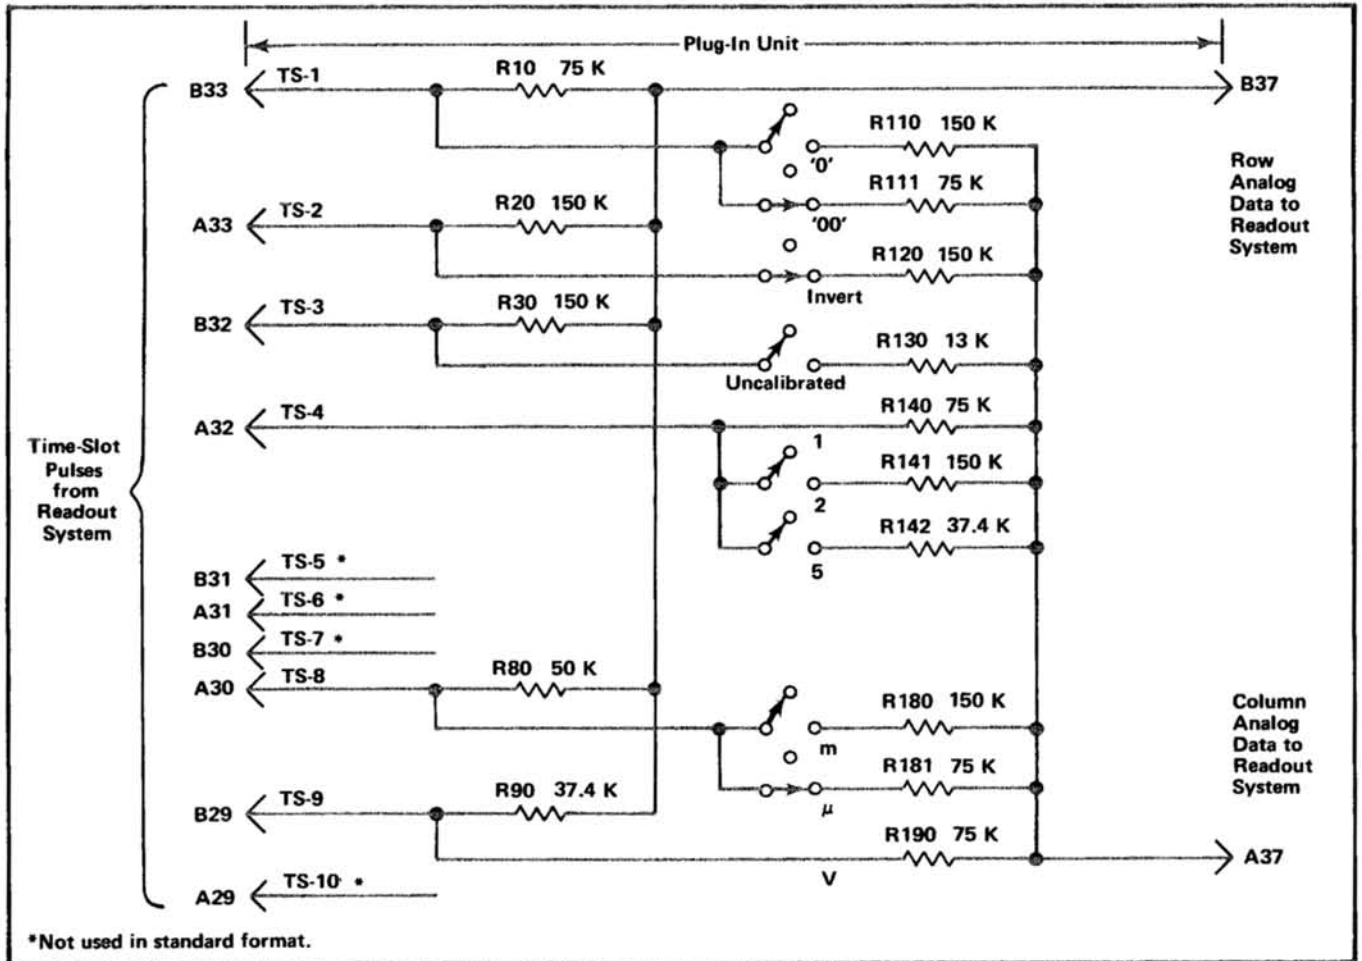
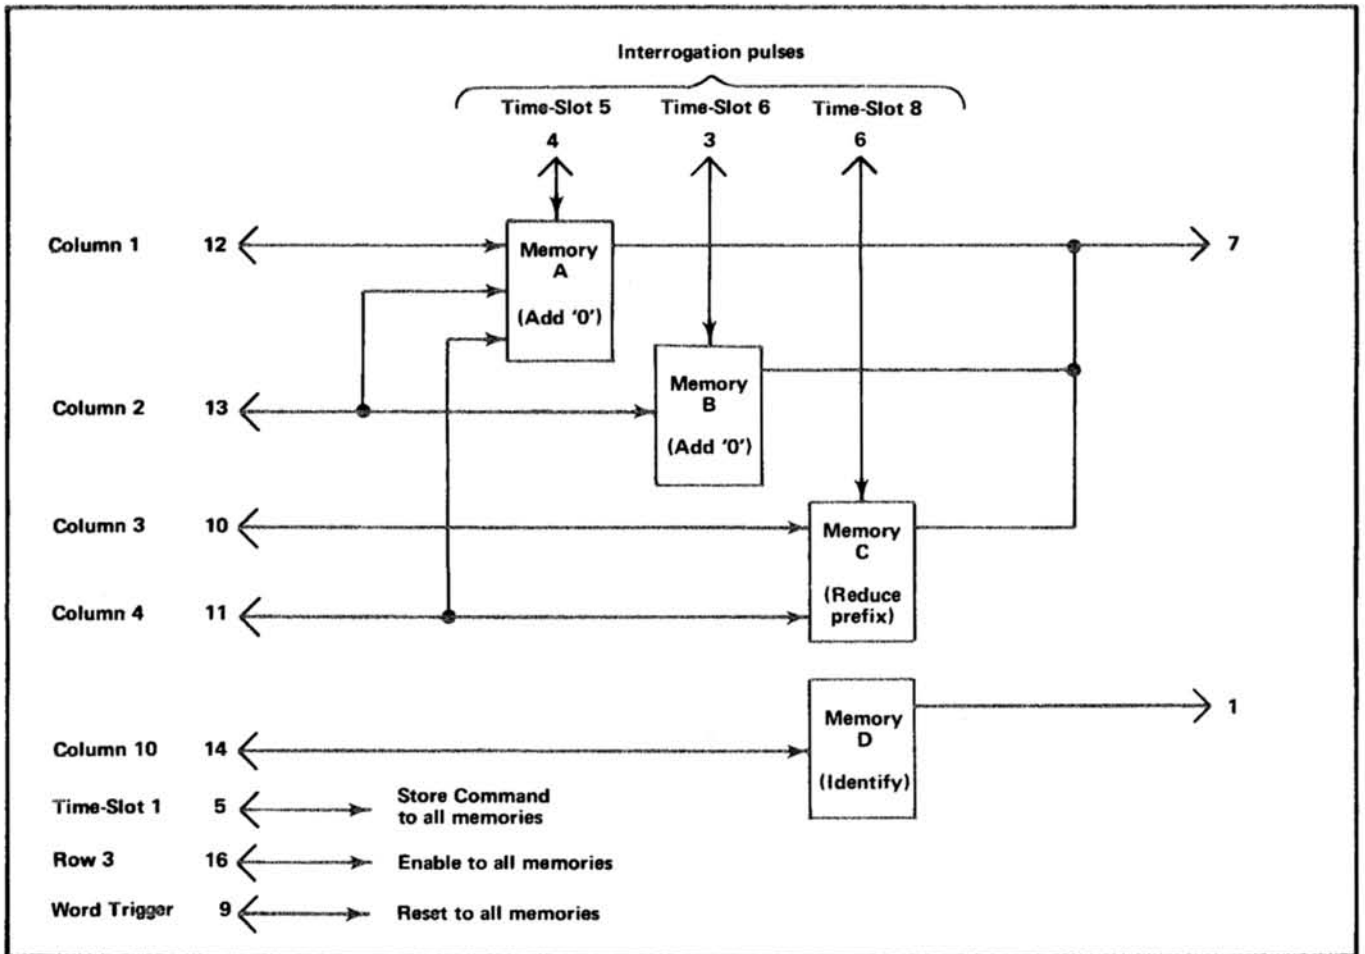
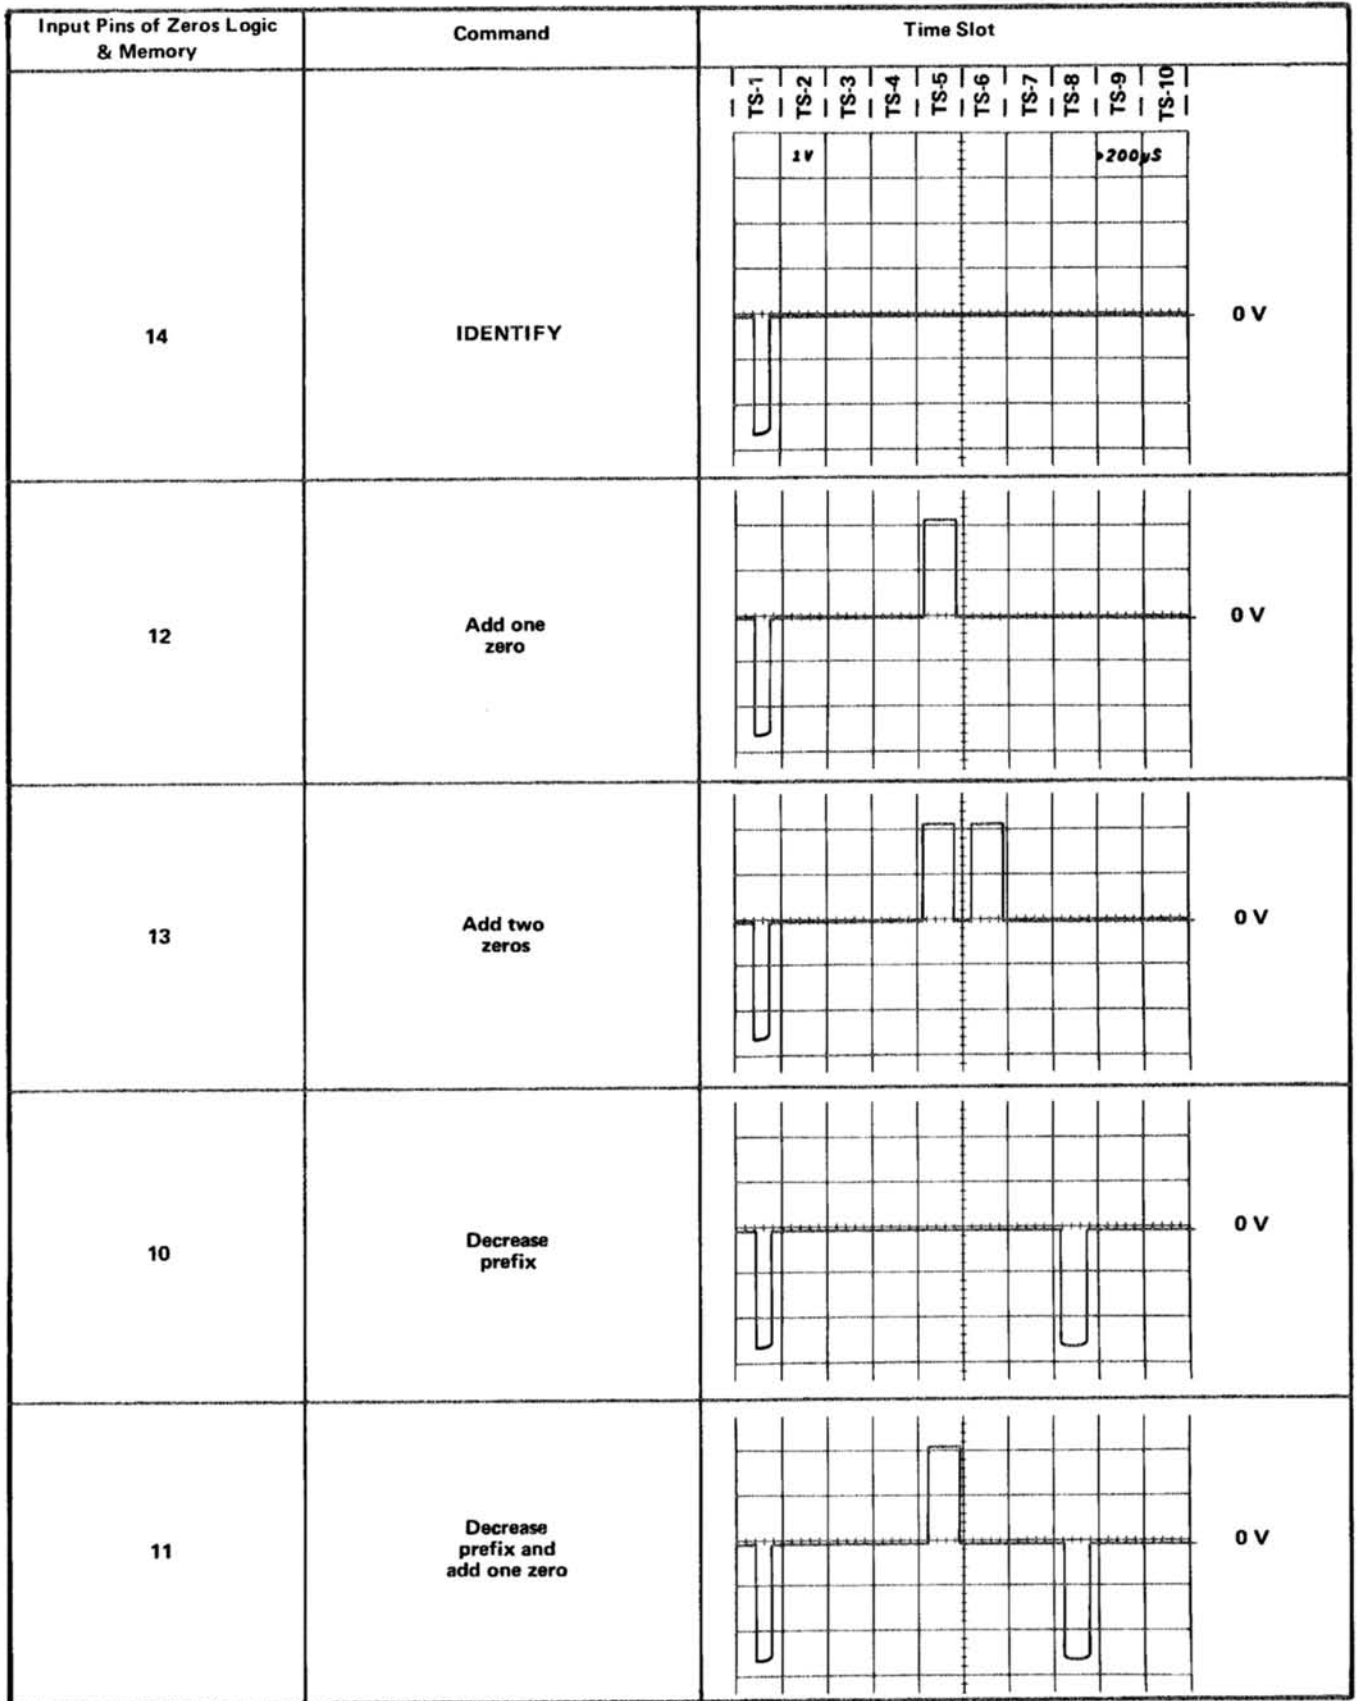

Fig. 3-32. Typical encoding scheme for voltage-sensing amplifier plug-in unit. Coding shown for deflection factor of 100 microvolts.
Fig. 3-34. Block representation of memory sequence in U2232.
Fig. 3-35. Typical output waveforms for Zeros Logic and Memory stage operation (at pin 7 of U2232).
Data is conveyed from the plug-in units to the Readout System in the form of an analog code having up to 11 current levels (from zero to one milliamperere in 100 microampere steps). The characters which can be selected by the encoded data are shown on the Character Selection Matrix (see Fig. 3-25). Each character requires two currents to define it; these currents are identified as the column current and the row current which correspond to the column and row of the matrix. The column and row data is encoded by resistive programming in the plug-in units. Fig. 3-32 shows a typical encoding scheme for a voltage-sensing amplifier plug-in unit. Notice that the 10 time-slot (TS) pulses produced by the Time-Slot Counter stage are connected to the plug-in unit. However, time-slots 5, 6, 7, and 10 are not used by the plug-in unit to encode data when using the Standard Readout Format (see Table 3-2 for Standard Readout Format). The amplitude of the time-slot pulses is exactly -15 volts as determined by the Timer stage. Therefore, the resultant output current from the plug-in units can be accurately controlled by the programming resistors in the plug-in units.
For example, in Fig. 3-32, resistors R10 through R90 control the row analog data which is connected back to the Readout System. These resistors are of fixed value and define the format in which the information will be presented by the Readout System. Fig. 3-33A shows an idealized output current waveform of row analog data which results from the 10 time-slot pulses. Each of the steps of current shown in these waveforms corresponds to 100 microamperes of current. The row numbers on the left-hand side of the waveform correspond to the rows in the Character Selection Matrix shown in Fig. 3-35. The row analog data is connected back to the Readout System via terminal B37 of the plug-in interface.
The Column analog data is defined by resistors R110 through R190. The program resistors are connected to the time-slot lines by switch closures to encode the desired data. The data as encoded by the circuit shown in Fig. 3-32 indicates a 100 microvolt sensitivity with the display inverted and calibrated vertical deflection factors. This results in the idealized output current waveforms shown in Fig. 3-33B in the column analog data output, terminal A37 of the plug-in interface. Resistor R111, connected between time-slot 1 and the column analog data output, encodes two units of current during time-slot 1. Referring to the
connectors of vertical plug-in units. A special coding ring around the input connector of the plug-in unit senses the attenuation ratio of the probe (with readout-coded probes only). The probe contains a resistor which results in additional column current. For example, if a 10X attenuator probe is connected to a plug-in with the coding for 100 microvolts as shown in Fig. 3-32, an additional unit of current is added to the column analog data during time-slot 1. Since two units of current were encoded by R111 (see Fig. 3-32), this additional current results in a total of three units of column analog current during this time-slot. Referring to the Character Selection Matrix, three units of column current along with the two units of row current encoded by R10 indicates that the prefix should be reduced. Since this instruction occurs in the same time-slot which previously indicated that two zeros should be added to the display and only one instruction can be encoded during a time-slot, the zeros do not appear in the display. The CRT readout will now be changed to 1 mV (readout) program produced by plug-in same as for previous example.
The Zeros Logic and Memory stage U2232 stores data encoded by the plug-in units to provide zeros-adding and prefix-shifting logic for the Readout System. The Strobe pulse at pin 15 goes positive when the data has stabilized and can be inspected. This activates the Zeros Logic and Memory stage so it can store the encoded data. A block representation of the memory sequence is shown in Fig. 3-34. Typical output waveforms for the five possible input conditions that can occur are shown in Fig. 3-35. When time-slot 1 occurs, a store command is given to all of the